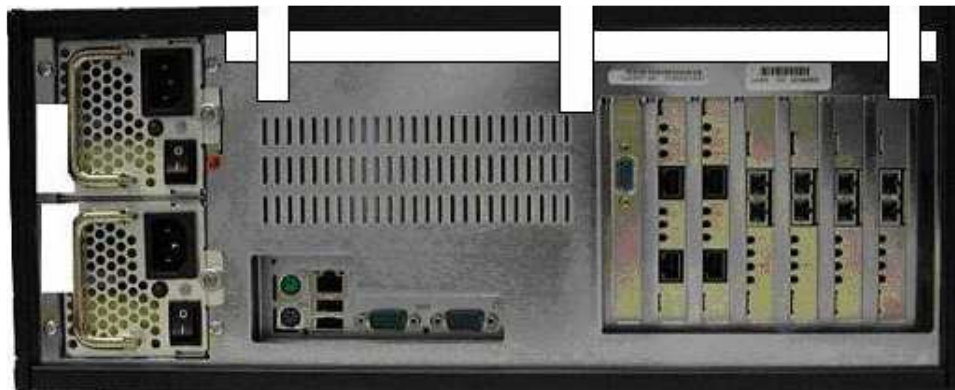

Figure 15 – Brick 1000 Tamper Evidence Label Placement
2. Having the front cover facing you, place the first label on the top left of the module as shown in Figure 15. The tamper evidence label should be placed so that the one half of the tamper evidence label covers the top of the chassis and the other half covers the left side of the chassis. Any attempt to remove the enclosure will leave tamper evidence.
3. Place the second label on the chassis as shown in Figure 15. The tamper evidence label should be placed so that one half of the tamper evidence label covers the top of the chassis and the other half covers the right side of the chassis. Any attempt to remove the enclosure will leave tamper evidence.
4. Place the third label on the chassis as shown in Figure 15. The tamper evidence label should be placed so that the one half of the tamper evidence label covers the top of the front panel cover of the chassis and the other half covers the front of the top of the chassis. Any attempt to remove the enclosure or open the front panel cover will leave tamper evidence.
5. Place the fourth label on the back right of the module as shown in Figure 15. The tamper evidence label should be placed so that the one half of the tamper evidence label covers the back panel of the enclosure and the other half covers the first power supply. Any attempt to remove the enclosure will leave tamper evidence.
6. Place the fifth label on the back right of the module as shown in Figure 15. The tamper evidence label should be placed so that the one half of the tamper evidence label covers the back panel of the enclosure and the other half covers the redundant power supply. Any attempt to remove the enclosure will leave tamper evidence.
7. Place the sixth label on the back of the module as shown in Figure 15. The tamper evidence label should be placed so that the tamper evidence label covers the far left screw, the chassis, and the top of the opacity shield. Any attempt to remove the enclosure will leave tamper evidence.
8. Place the seventh label on the back of the module as shown in Figure 15. The tamper evidence label should be placed so that the tamper evidence label covers the middle screw, the chassis, and the top of the opacity shield. Any attempt to remove the enclosure will leave tamper evidence.
9. Place the eighth label on the back of the module as shown in Figure 15. The tamper evidence label should be placed so that the tamper evidence label covers the far right screw, the chassis, and the top of the opacity shield. Any attempt to remove the enclosure will leave tamper evidence.